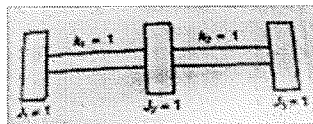

Figure 3
7. Determine the natural frequencies of the system shown in Figure 3. below using Holzer's method.